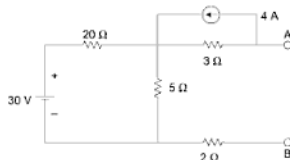

Fig. A1-43
- (c) Find Thevenin's equivalent circuit across AB shown in Fig. A1-43.